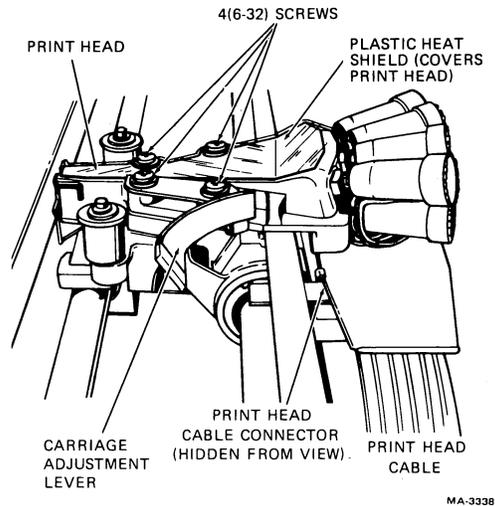

Fig. 3—Print Head Removal and Installation
- (e) Remove the four (6-32) screws and washers that secure the print head to the carriage (Figure 3).